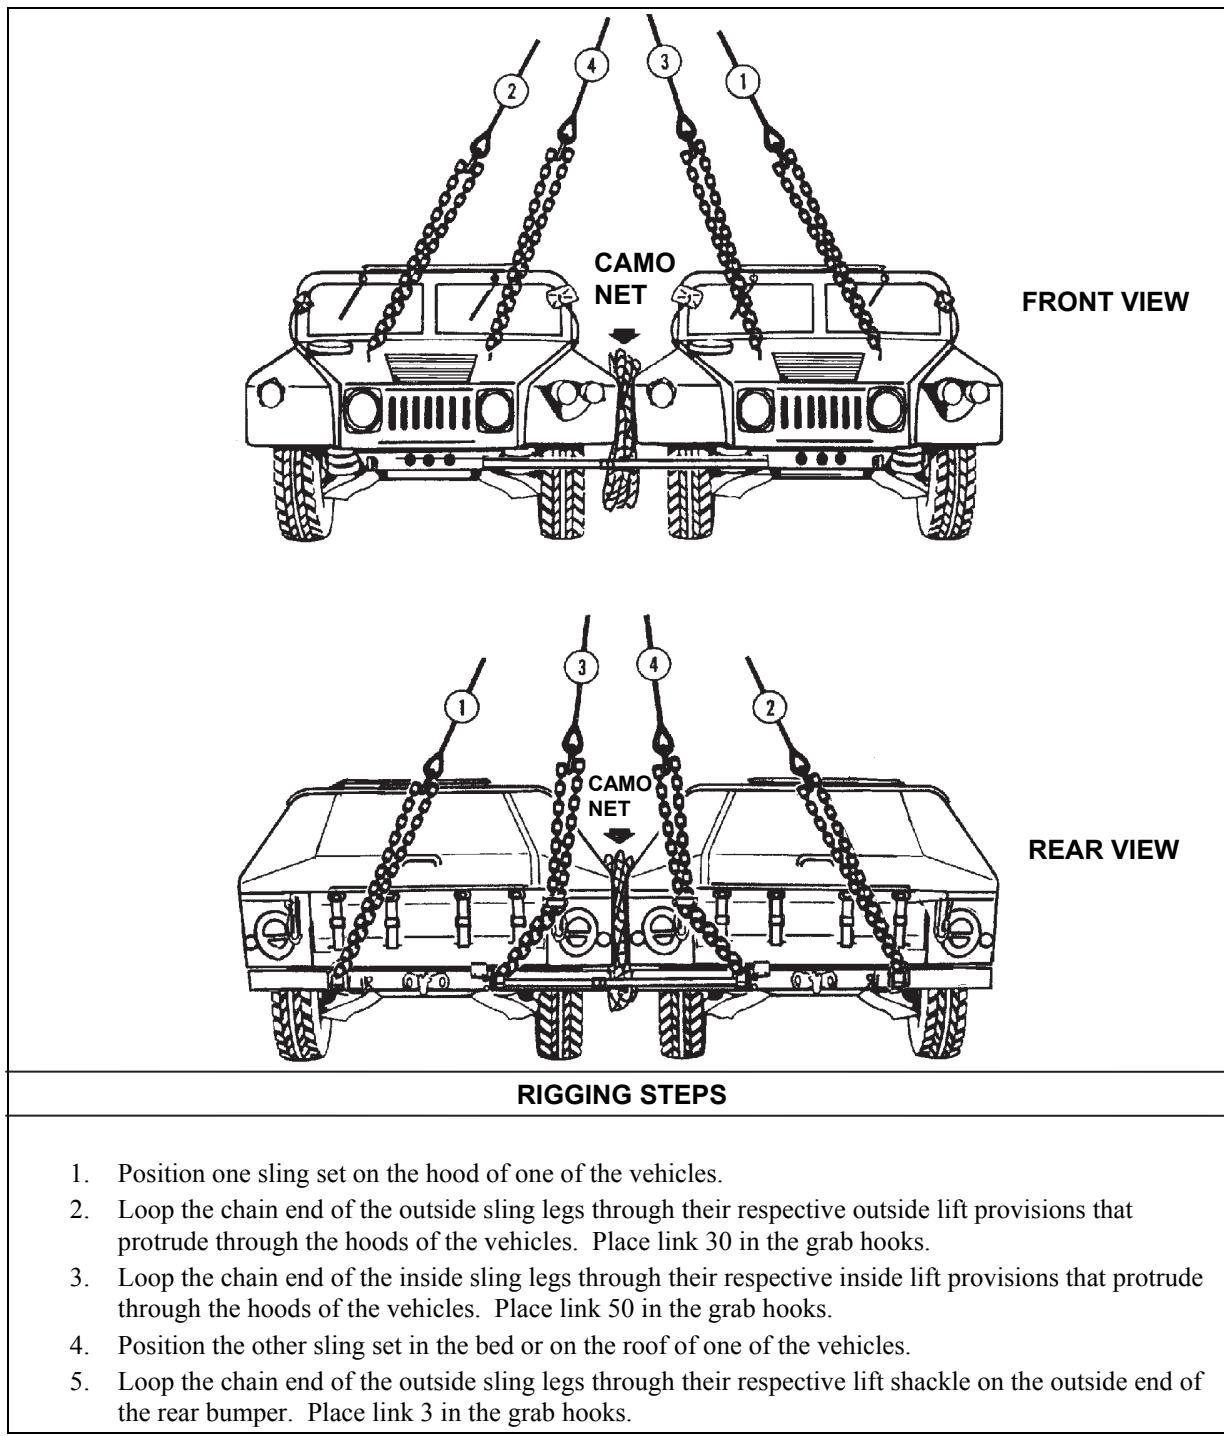

Figure 2-15. Dual HMMWVs, Side by Side
- **Rigging.** Rig the load according to the steps in Figure 2-15.